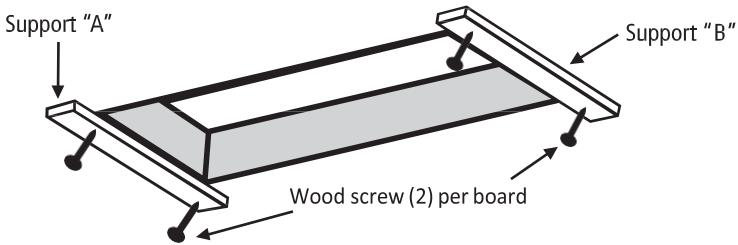

FIGURE 4: View from below
A. Attach temporary supports "A" and "B" using  $2\frac{1}{2}$ " wood screws as described below and shown in figures 4 and 5.